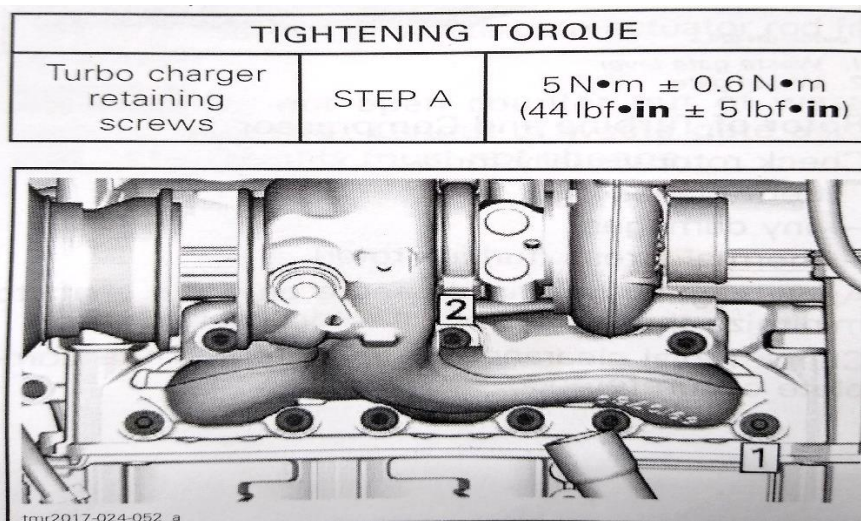

Figure 2
Step 4: Torque (2) of the retaining screws to 44 in-lb (about 4 ft-lb), following the order shown in Figure 2.